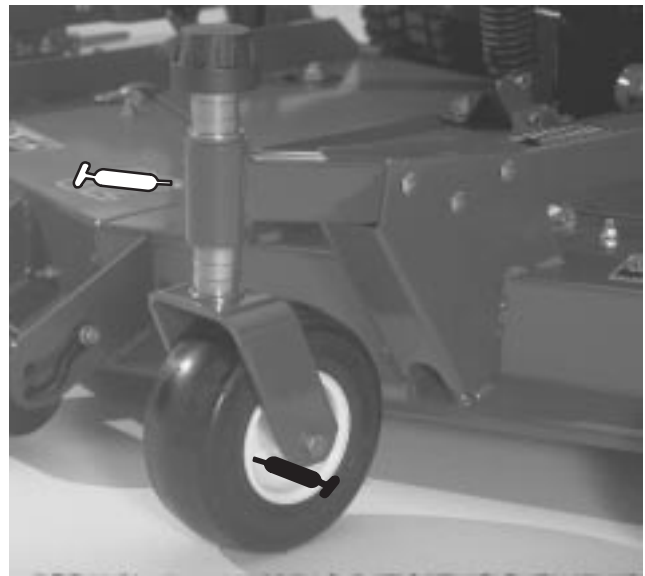

Figure 19
- front castor spindle bushings (Fig. 19)
- front and rear castor wheel bearings (Fig. 19)